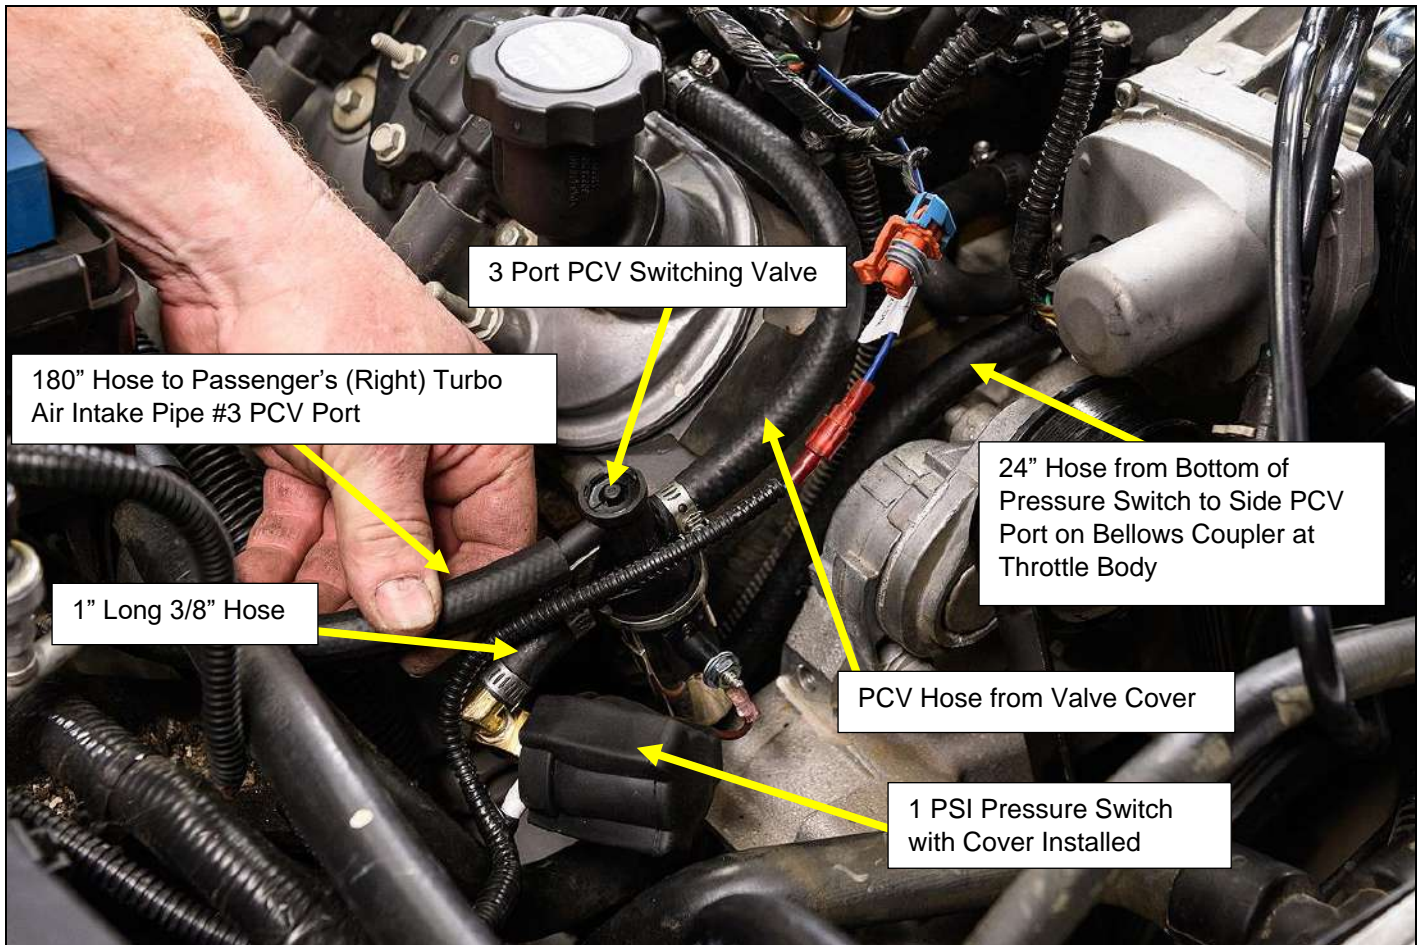

Figure 12
4. Pre-assemble the 1 psi pressure switch into the side port of the three way 1/8" NPT tee. Install the 90 degree hose barb fittings into the end ports of the TEE (**Figure 12**).
6. Install a hose clamp on to the other end of the 1" hose. Install the pressure switch with the 1" hose to the bottom port on the PCV switching valves 2 port side (**Figure 12**).